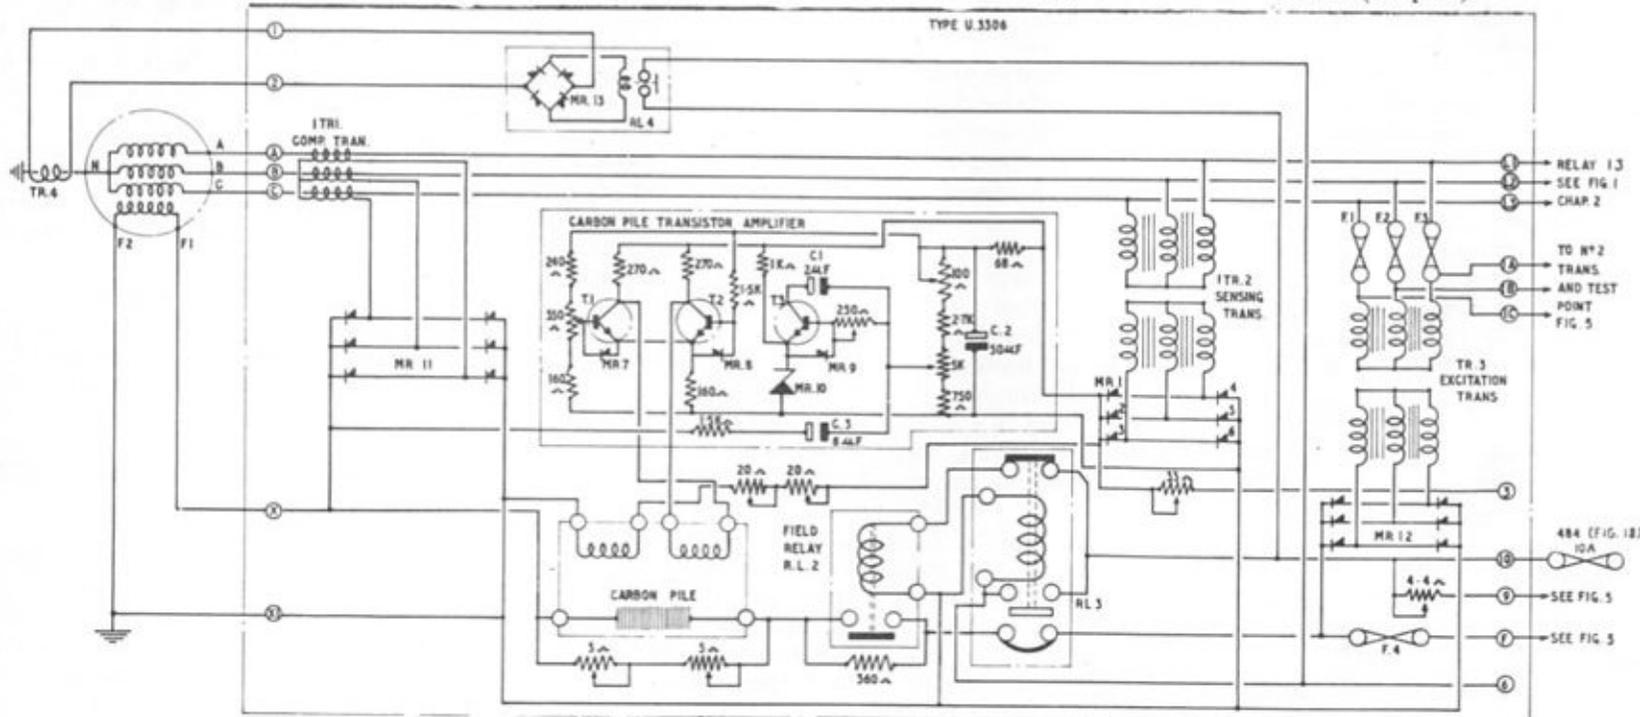

Fig.11 A.A.P.P. transformer-rectifier unit, Type U3306
63. Alternator field flashing is initiated during a start sequence when relay 484 is energised. A supply from fuse 955 will be made via contacts 484/1 and contacts 2 - 5 of the V.P.U. to energise relay 393 (fig.9 and 5). Contacts 393/1 will close to complete a supply from fuse 484 to the alternator field winding via pins 10 - 9 - F of the transformer-rectifier unit (fig.11). When the A.A.P.P. is started and running, the field will be energised by a rectified output from the alternator.